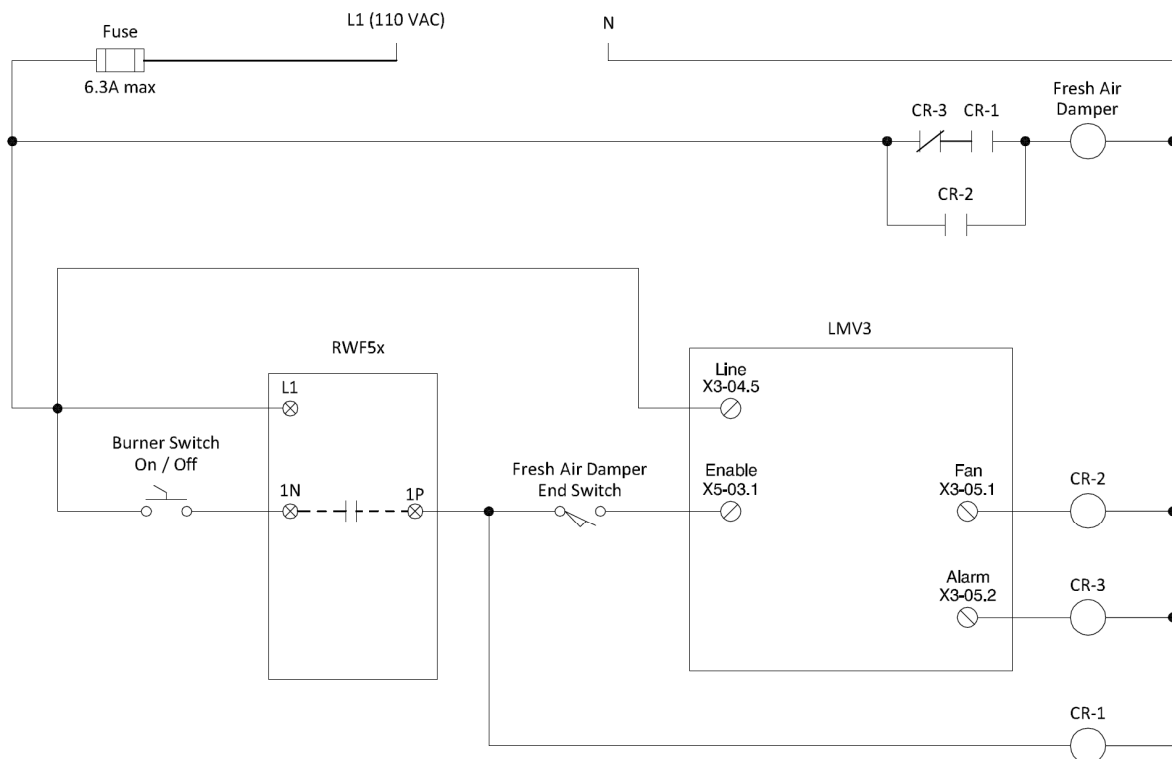

Figure 2: LMV3 Fresh Air Damper Wiring – Option 1
1. Wire the LMV3, RWF5x load controller, and fresh air damper as shown in Figure 2.